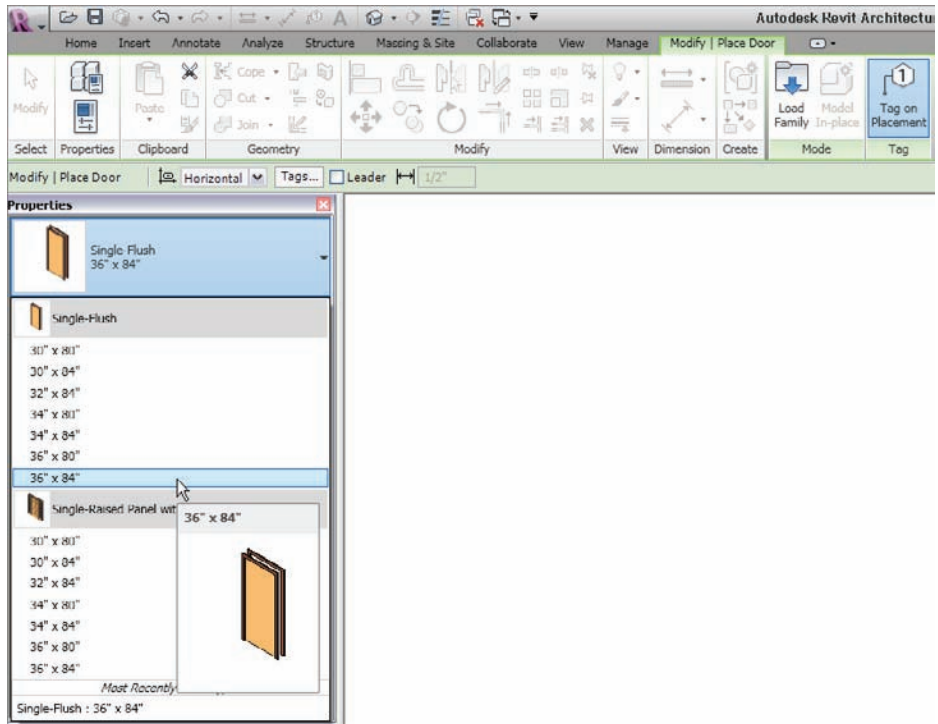

FIGURE 1.54 Each family .rfa file contains multiple types associated with that family.
- 7.** In the Properties dialog, click the Type Selector, as shown in Figure 1.54. Notice that in addition to bringing in the raised panel door family, you also have seven different types of the same door. These types are simply variations of the same door. You no longer have to explode a block and modify it to fit in your wall.
- 8.** Select *Single-Flush 36" × 84" (914mm × 2134mm)*, as shown in Figure 1.54.